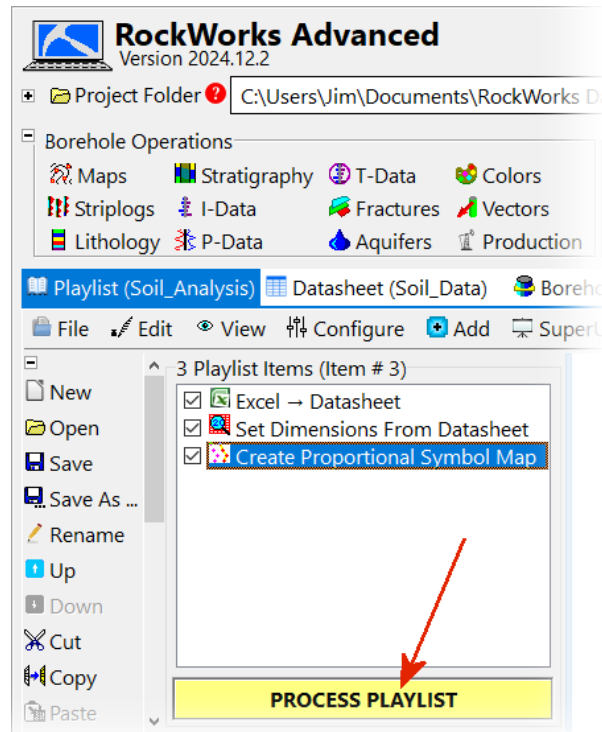

Figure 29
- Test the Soil_Analysis Playlist by clicking on the *Process Playlist* button at the base of the Playlist (Figure 29). After a few seconds, the proportional map should be re-displayed. If not, the settings within the Playlist items may be examined by double-clicking on each Playlist item. Note that it is possible to control which items are executed by enabling/disabling the checkbox adjacent to each Playlist item.